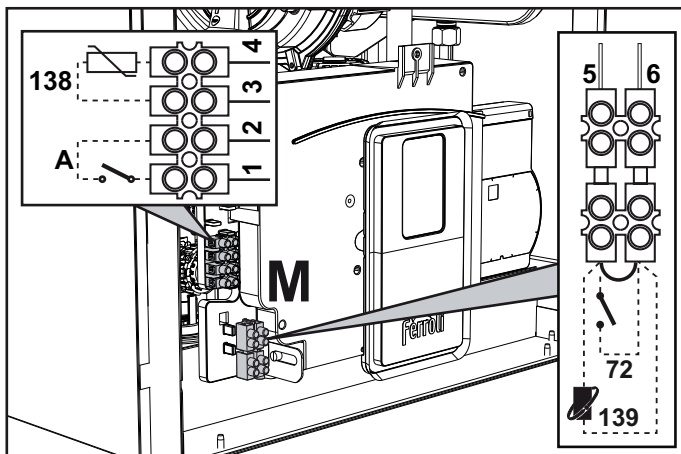

fig. 29
After removing the front panel (*** 'Opening the front panel' on page 325 ***) it is possible to access the terminal blocks (M) and the fuse (F) following the directions given below. **The terminals indicated in fig. 29 must be with voltage-free contacts (not 230V).** The arrangement of the terminals for the various connections is also given in the wiring diagram in fig. 66.
ON/OFF (A fig. 29) configuration